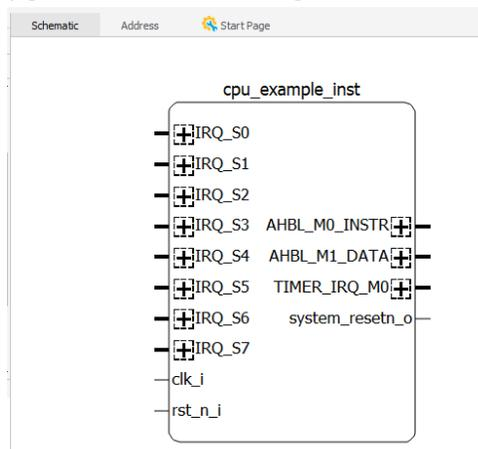

Figure 3.5. Generated Instance
6. The CPU IP instance is successfully generated as shown in Figure 3.5.